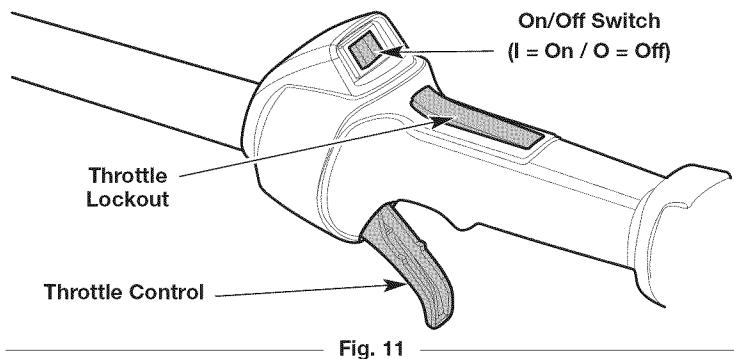

Fig. 11
NOTE: There is no need to turn the unit on. The On/Off switch is in the **On (I)** position at all times (Fig. 11).
5. Press and hold the throttle lockout. Squeeze and hold the throttle control (Fig. 11). Pull the starter rope with a controlled and steady motion until the unit starts (Fig. 13).
2. Press and hold the On/Off switch in the **Off (O)** position until the engine comes to a complete stop (Fig. 11).
- NOTE:** There is no need to turn the unit on. The On/Off switch is in the **On (I)** position at all times (Fig. 11).
6. Press and hold the throttle lockout. Squeeze and hold the throttle control (Fig. 11). Run the Speed Start™ accessory in intervals no longer than 2 seconds each until the unit starts.